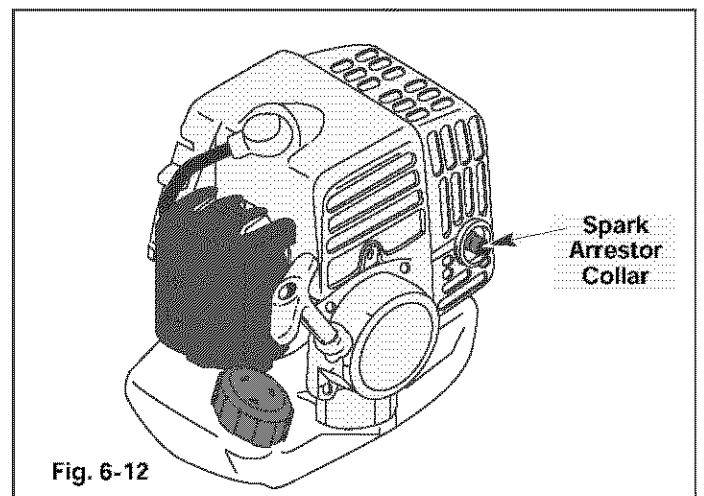

Fig. 6-12
1. Turn the powerhead so the back of the engine is facing forward. In this position, the starter rope is to the left (Fig. 6-12).